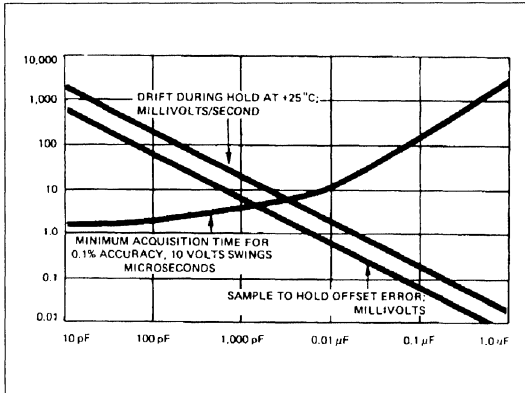

Figure 1. Typical Performance Curve
The Droop Rate for this unit is determined from the value of the external capacitance, (CH), shown in the Block Diagram. Figure 1 shows the curves that give the value of CH for the desired Droop Rate, as well as the effect on Acquisition Time.